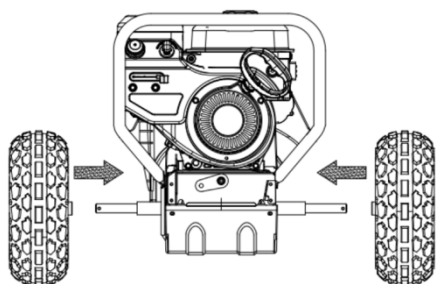

Figure 1
1. Installing left and right tire as indicated on Figure 1. Please move left tire to right if axle move to left when you install right tire.